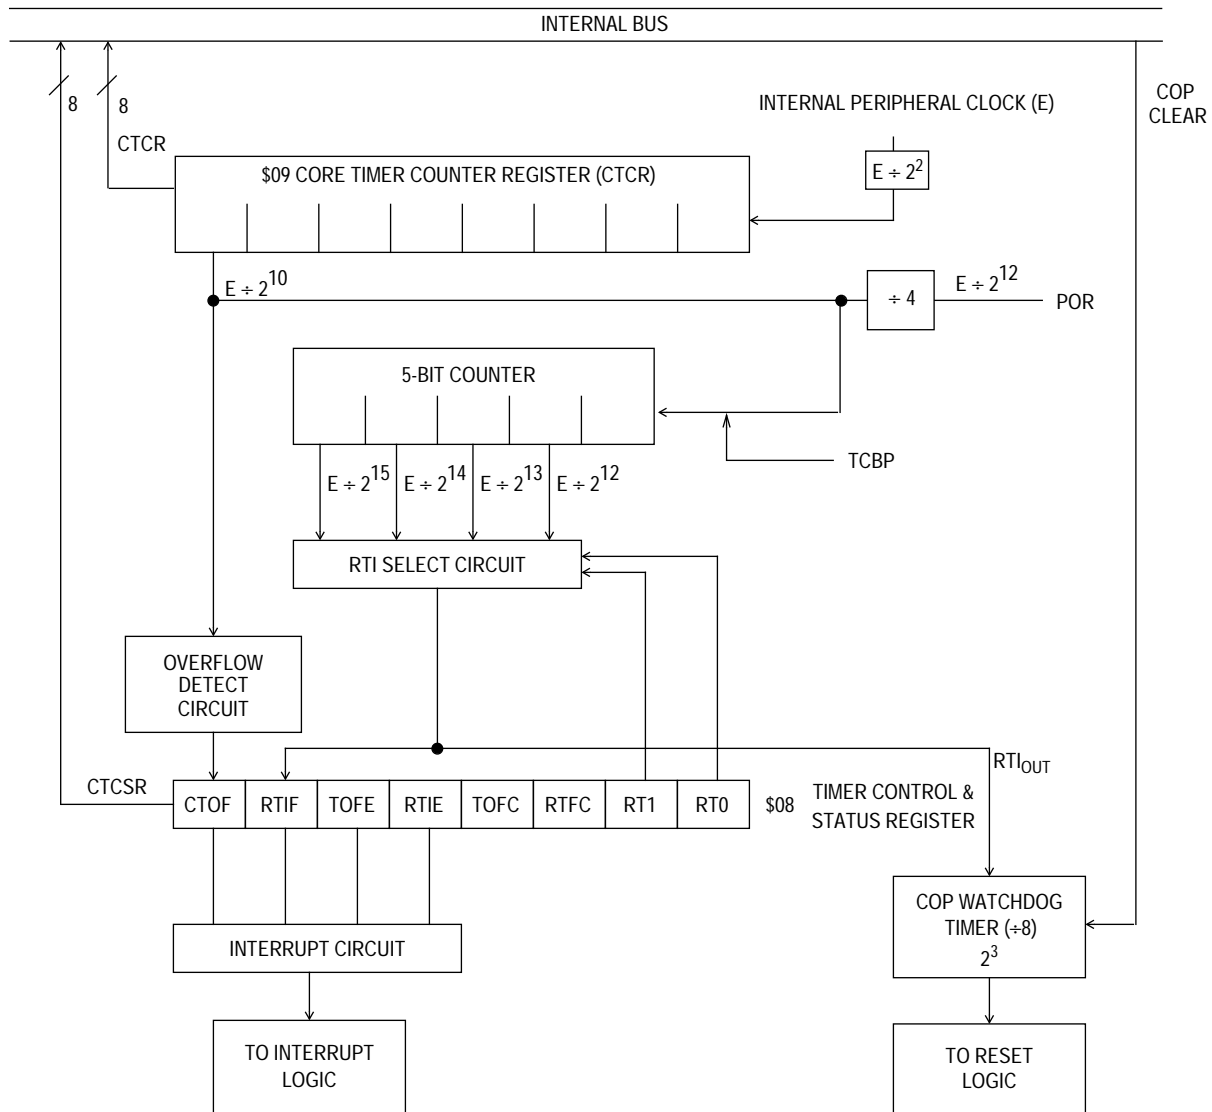

Figure 8-1. Core Timer Block Diagram
As seen in **Figure 8-1**, the internal peripheral clock is divided by four, and then drives an 8-bit ripple counter. The value of this 8-bit ripple counter can be read by the CPU at any time by accessing the core timer counter register (CTCR) at address \$09. A timer overflow function is implemented on the last stage of this counter, giving a possible interrupt rate of the internal peripheral clock (E)/1024. This point is then followed by three more stages, with the resulting clock (E/4096) driving the real-time interrupt circuit (RTI). The RTI circuit consists of three divider stages with a one-of-four selector. The output of the RTI circuit is further divided by eight to drive the mask optional COP watchdog timer circuit. The RTI rate selector bits and the RTI and CTOF enable bits and flags are located in the timer control and status register at location \$08.